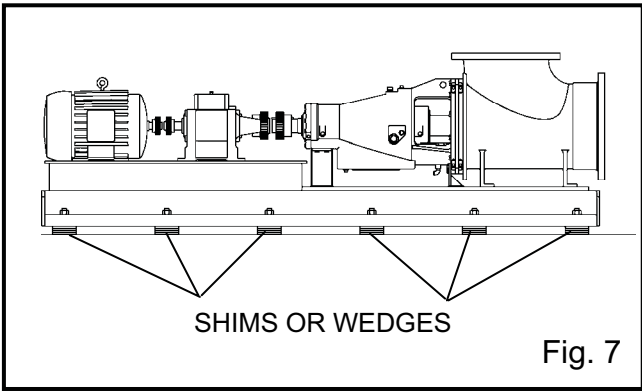

Fig. 7
1. The sub-base should be supported on rectangular metal blocks or on metal wedges having a slight taper. There should be support blocks or wedges on both sides of each foundation bolt. A gap of about 3/4" to 1-1/2" should be allowed between the sub-base and the foundation for grouting (Fig. 7).